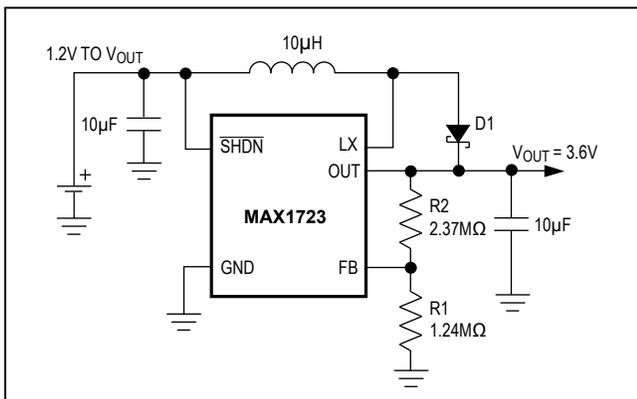
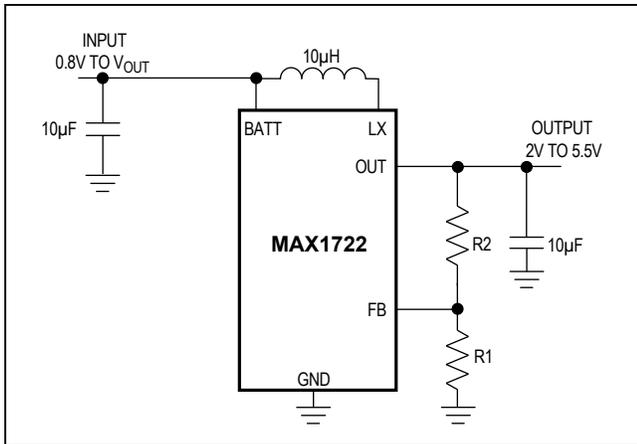
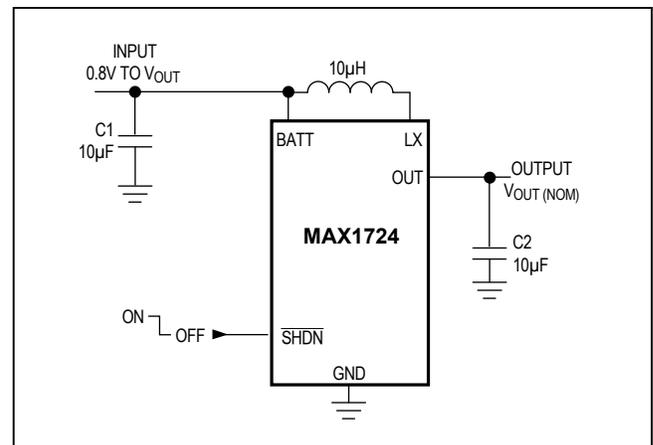

Figure 3. MAX1723 Single-Cell Operation
Figure 7. Adjustable Output Circuit
Figure 8. MAX1724 Standard Application Circuit
**Note 2:** Guaranteed with the addition of a Schottky MBR0520L external diode between LX and OUT when using the MAX1723 with only one cell, and assumes a 0.3V voltage drop across the Schottky diode (see Figure 3).
(Figure 3 (MAX1723), Figure 7 (MAX1722), Figure 8 (MAX1724), VBATT = VIN = 1.5V, L = 10µH, CIN = 10µF, COUT = 10µF, TA = +25°C, unless otherwise noted.)
lacks a BATT pin; therefore, this circuit is powered through the OUT pin. Adding a Schottky diode in parallel with the P-channel synchronous rectifier allows for startup voltages as low as 1.2V for the MAX1723 (Figure 3). The external Schottky diode is not needed for input voltages greater than 1.8V. Once started, the output maintains the load as the battery voltage decreases below the startup voltage.
The output voltage can be adjusted from 2V to 5.5V using external resistors R1 and R2 (Figure 7). Since FB leakage is 20nA (max), select feedback resistor R1 in the 100kΩ to 1MΩ range. Calculate R2 as follows: